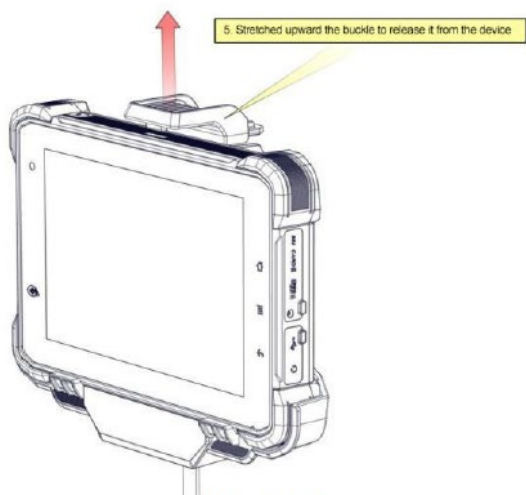

Fig. 4.5
4.2.1 Stretch upwards the buckle to release it from the device, as Fig 4.5 shown.